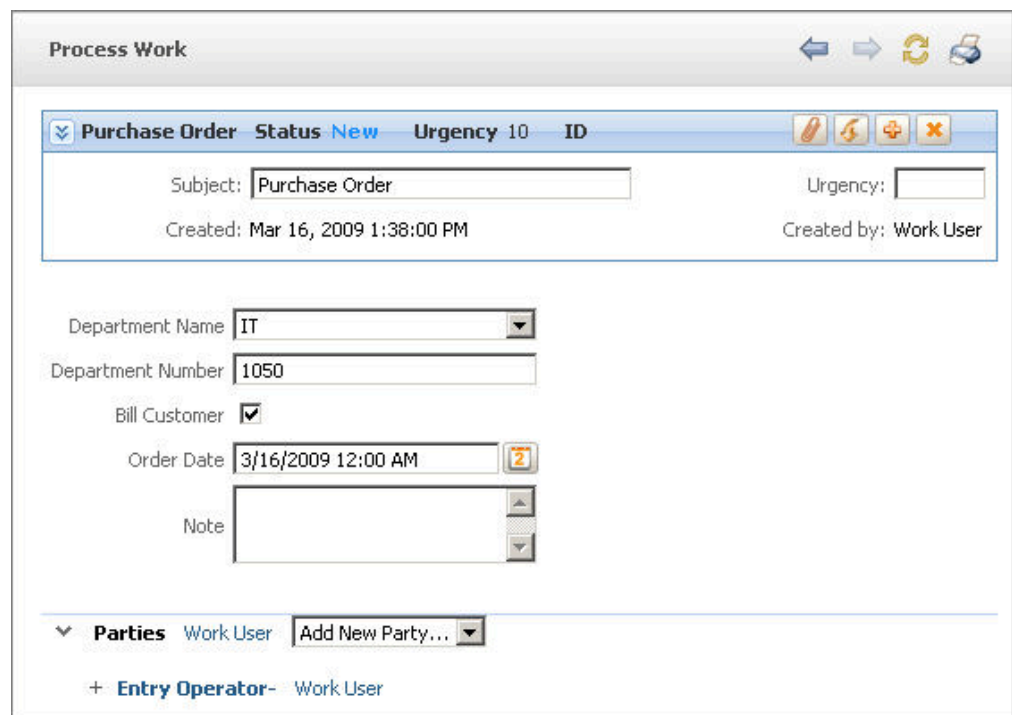

Figure 2-4. New Order Entry Form
3. On the New Purchase Order form, select IT from the Department Name selection box. Enter a Department Number consisting only of numeric digits (Figure 2-4).